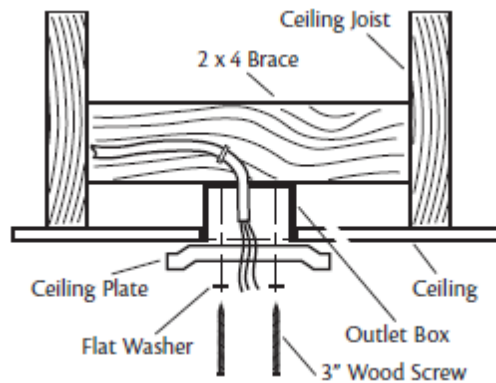

Figure 10 – Installing the Ceiling Plate
- Place a flat washer on each of the two 3" screws and pass the screws through the slotted holes into the ceiling plate as shown in Figure 10.